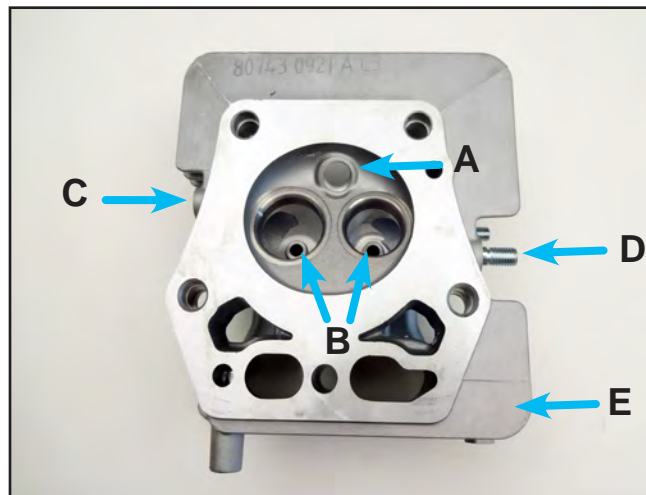
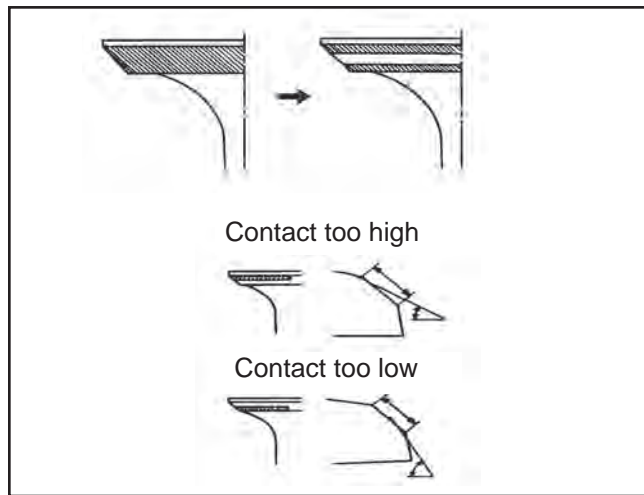
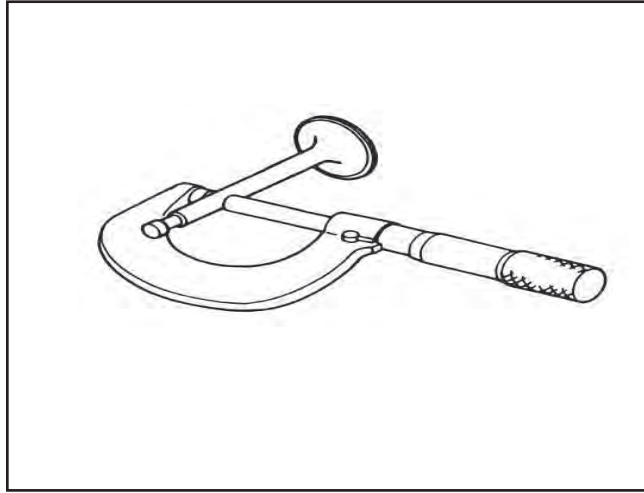
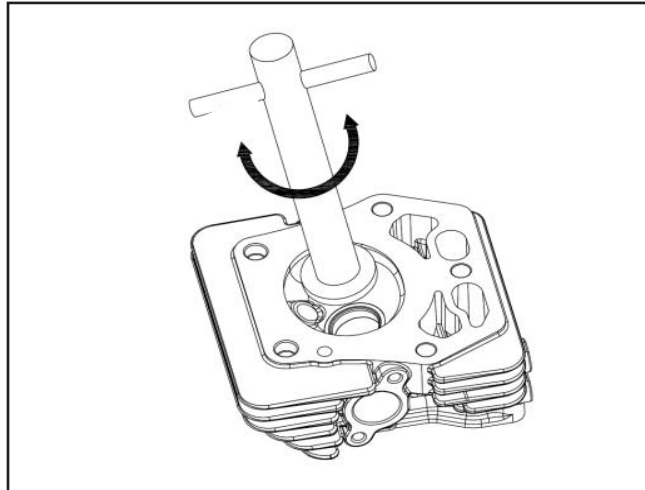

Figure 1
Figure 2
Figure 3
Figure 4
This chapter covers the inspection and reconditioning of primary engine components as listed in the table of contents. See engine exploded views in “Engine Disassembly” section, Figure 1, Figure 2, Figure 3 and Figure 4.
3. Inspect the cylinder head for cracks, specifically around the following (Figure 1):
- Spark plug threads (A)
- Valve seats (B)
- Exhaust Port (C)
- Intake Ports (D)
- Coolant Fins (E)
1. Inspect valve seats (Figure 2):
1. Clean carbon from the valve (Figure 3).
1. Using a 45-46° cutter, remove enough material to produce a smooth, concentric seat. Follow the valve seat cutter manufacturer's instructions (Figure 4).